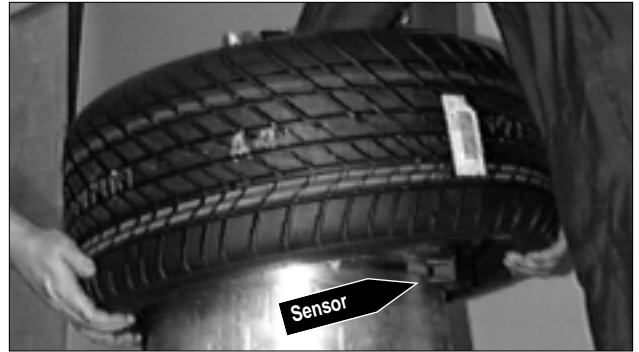

Figure 31 - Use Help on Lower Bead, Watch Sensor
11. Demount lower bead. In most cases when demounting performance tires, the lower bead will be less difficult. Use help to lift, position, and hold tire. Pay close attention to sensor/transmitter location, and position it directly below the demount tool when starting the lower bead demount procedure (Figure 31).